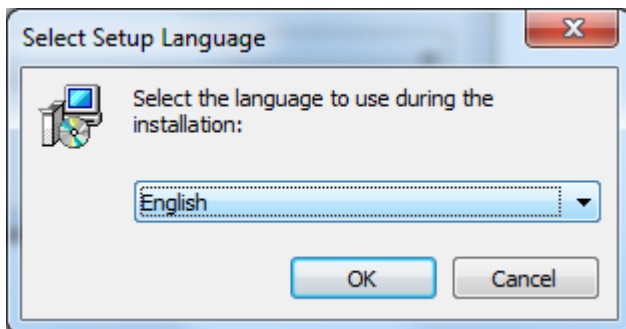

Figure 2
3. Choose the installer language (Figure 2)